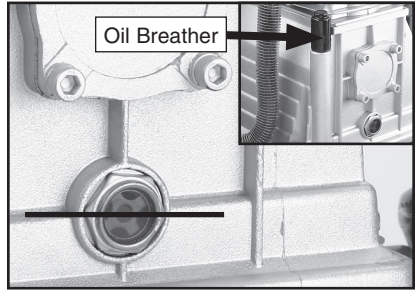

Figure 6. Proper oil level.
6. Remove the oil breather (inset in **Figure 6**) on top of the crankcase and add compressor oil, or ISO 100/SAE 30W non-detergent oil, to the crankcase. The oil level should be in the center of the sight glass as shown in **Figure 6**.